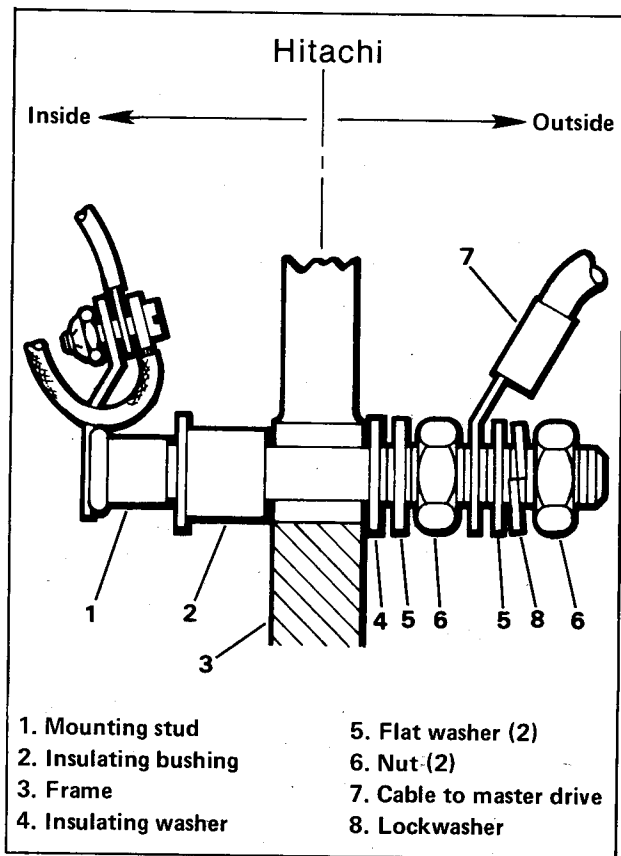

Figure 6-43. Motor Terminals (Hitachi)
1. Check all terminals and connections for corrosion and correct stacking of terminal mounting hardware (Figure 6-43 and 6-44).